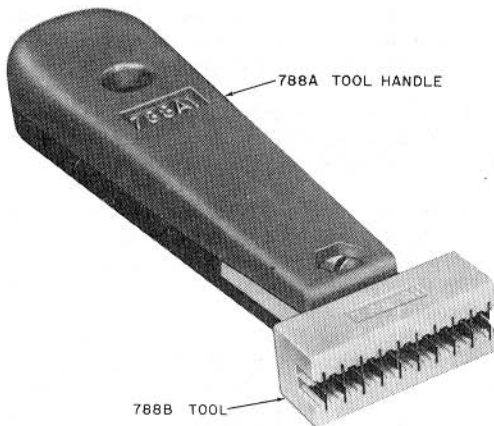

Fig. 10—5-Pair Insertion Tool
2.15 The 5-pair insertion tool (Fig. 10) consists of the ♦788B2♦ tool head mounted in the 788A1 tool handle. The tool head is used to seat five cable pairs at one time or to insert 3- or 5-pair connecting blocks on the index strip of the wiring block.